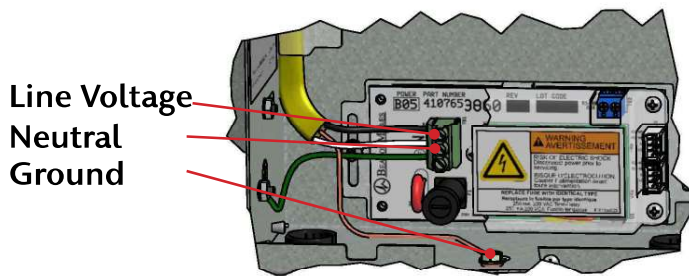

Figure 23: Supply Power Wiring
3. Connect incoming line and neutral wires to the terminal block. Ground wire connects directly to the rough-in box (chassis) at the green screw below the power supply (Figure 23).